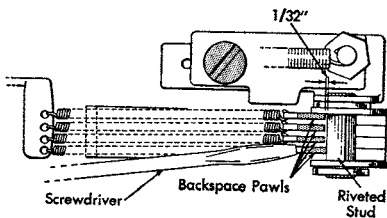

Figure 35. Operating Link Adjustment
5. BACKSPACE OPERATING LINK. Adjust so that when the cam is at rest, the backspace pawl spring lugs will clear the riveted stud in the backspace pawl support by $\frac{1}{32}$ " (Figure 35). If the cam fails to move the carriage far enough to backspace properly, this clearance may be increased slightly.